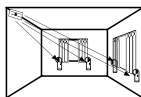

Fig. 5
- **Corner Mounted -** (choose corner opposite glass to be protected see fig. 5).